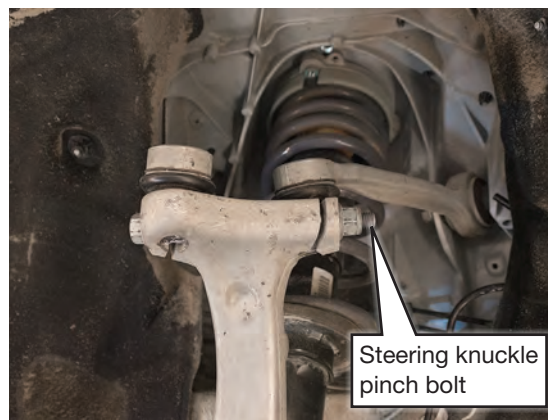

fig. D.5
7. Remove the steering knuckle pinch bolt that connects to the upper control arms. Lower the hub assembly (Fig. D.5).